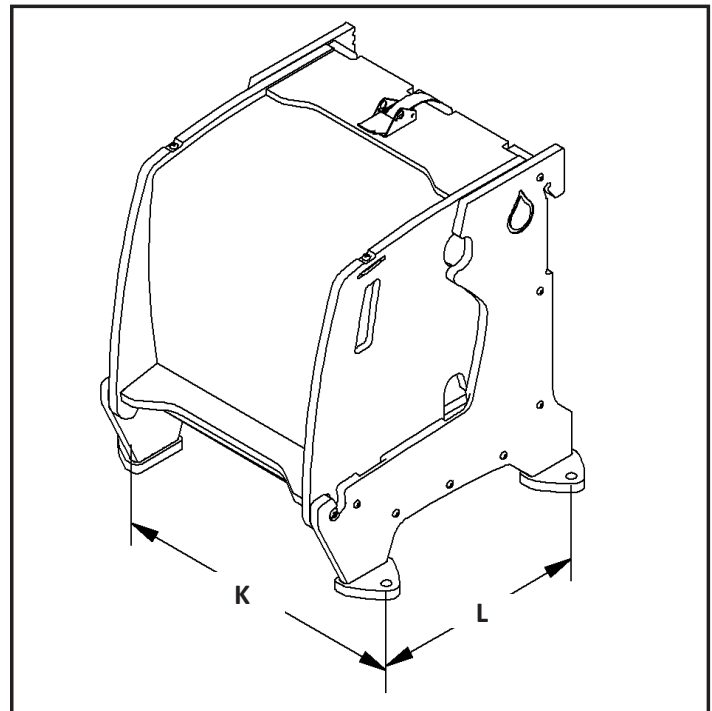

Fig. 3.2: Shelf mounting dimensions
2. Attach to the desired shelf with appropriate hardware (not included) [Figure 3.2]